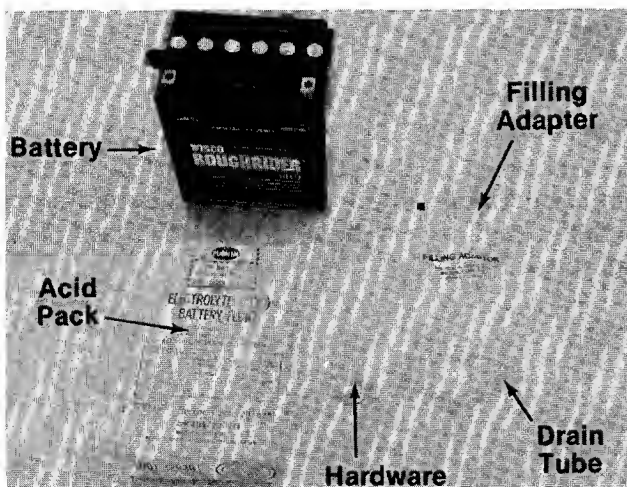

FIGURE 12.
1. Upon opening the battery pack, you should receive acid pack, battery, drain tube, filling adapter and hardware. See figure 12.